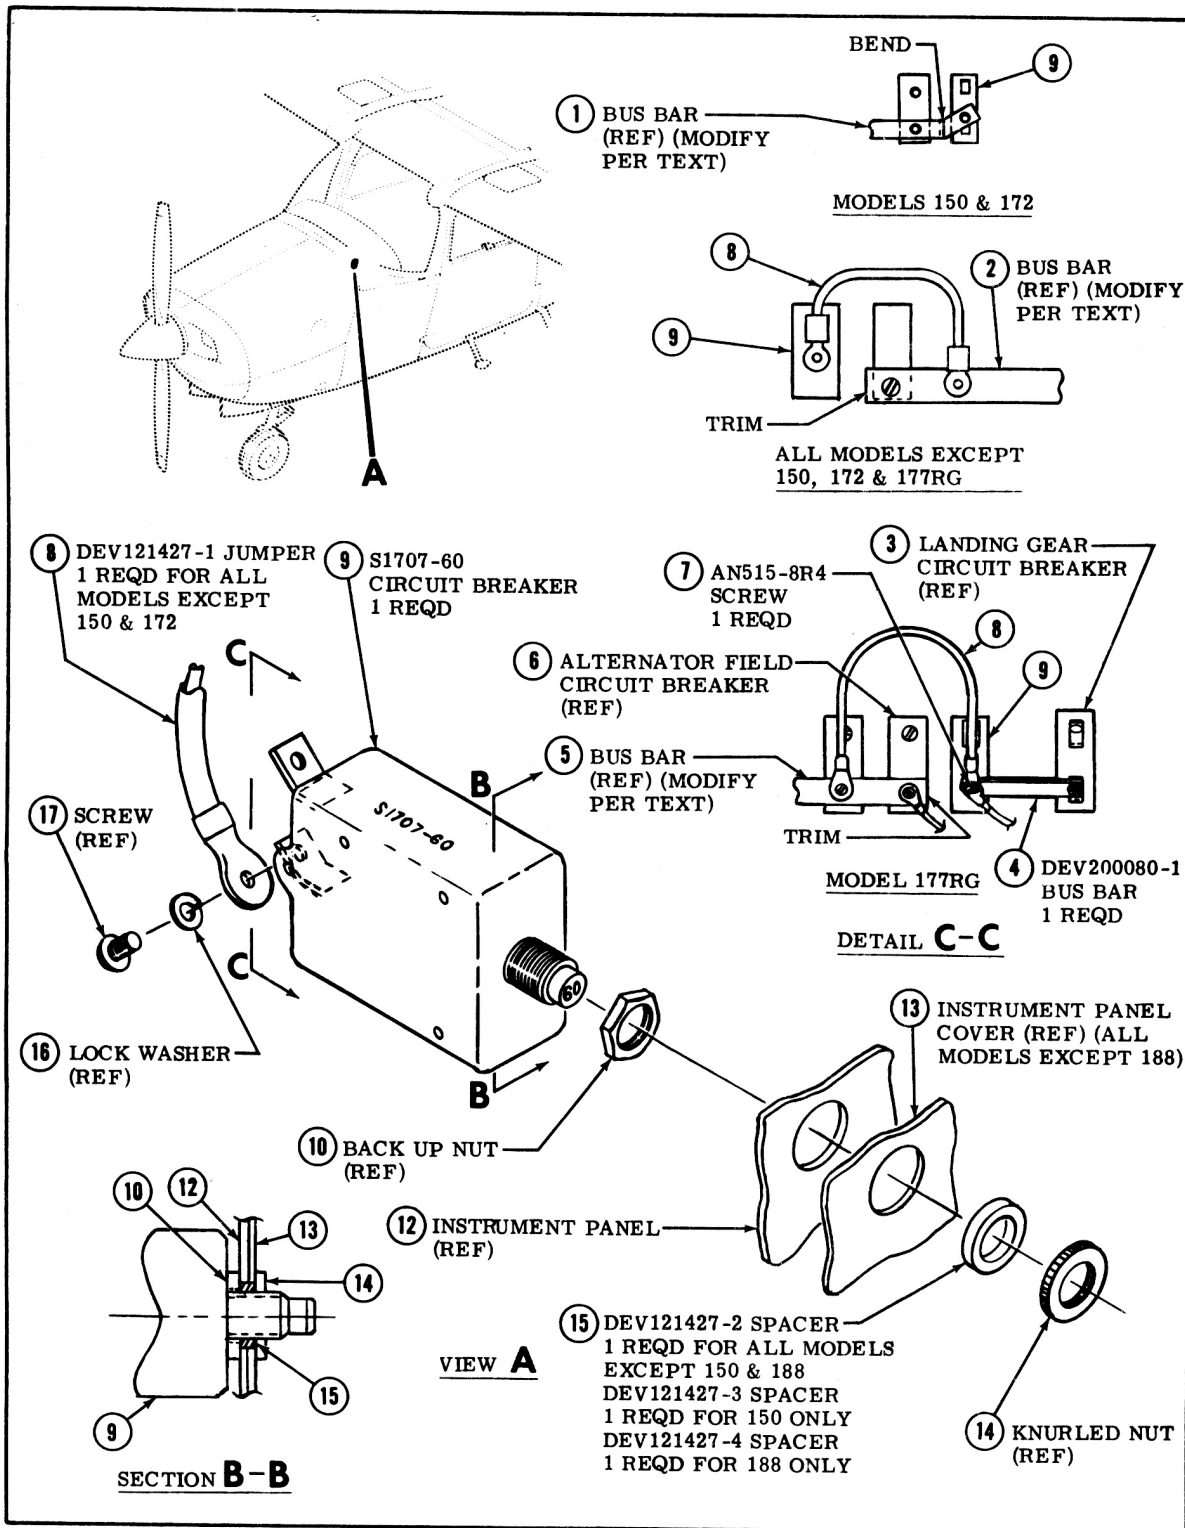

Figure 1. Circuit Breaker Replacement.
a. (Refer to figure 1.) Installation of this kit consists of:
- (1) Removing existing alternator 60 amp circuit breaker from instrument panel.
- (2) Modifying bus bar to accomodate new circuit breaker.
- (3) Installing and connecting a new circuit breaker.
a. (Refer to figure 1.) Existing Circuit Breaker Removal.
- (1) Place master switch in OFF position.
- (2) Remove or disconnect electrical connections from existing alternator 60 amp circuit breaker.
- (3) Remove nut securing circuit breaker to instrument panel and cover (12 & 13).
- (4) Remove and discard existing circuit breaker.
- b. (Refer to figure 1.) Bus Bar Modification.
- (1) (For Models 150 & 172) Bend bus bar (1), as shown in detail C-C, to fit circuit breaker (9) as circuit breaker is mounted through instrument panel.
- (2) (For all models except 150, 172 & 177RG) Trim end of bus bar (2) to .25" hole margin.
- (3) (For Model 177RG) Cut off bus bar (5) near alternator field circuit breaker (6) and trim to .25" hole margin.
- c. (Refer to figure 1.) New alternator circuit breaker installation.
- (1) Secure nut (10) against case of circuit breaker (9) "finger tight" as shown in view B-B.
- (2) Install circuit breaker (9) as shown, connecting lower terminal to bus bar (1) for models 150 and 172 or jumper (8) for all other models, and securing with lock washer (16) and screw (17).